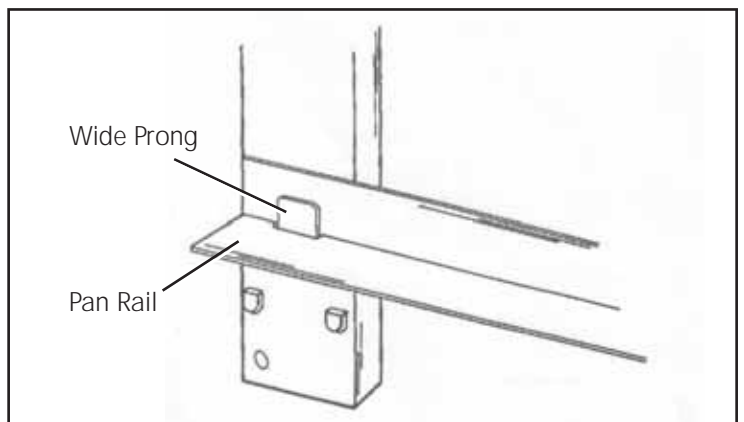

Figure 8
10. Install the pan rails on the wide prongs as shown in Figure 8.